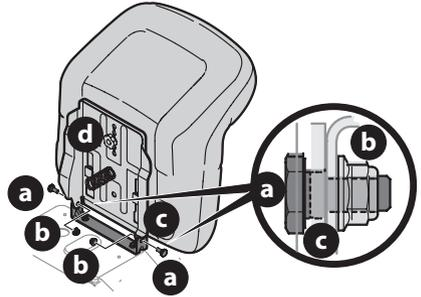

Figure 7
5. Position the seat assembly over the seat mounting bracket, aligning the holes provided (Figure 7).
6. Install the two shoulder bolts (a) and lock nuts (b) removed from the seat mounting bracket (c) in Step 1 (Figure 7).
7. To adjust the position of the seat, loosen the adjustment knob (d) on the bottom of the seat. Slide the seat forward or backward as desired. Securely re-tighten the adjustment knob (Figure 7).